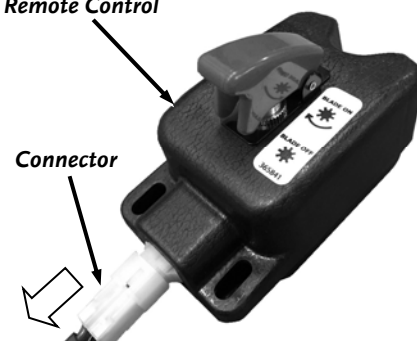

Figure 6
2. Pull the Connector from the Blade Engage/Disengage Remote Control (Figure 6).
- Plug the Connector into the Blade Engage/Disengage Remote Control (**Figure 6**).